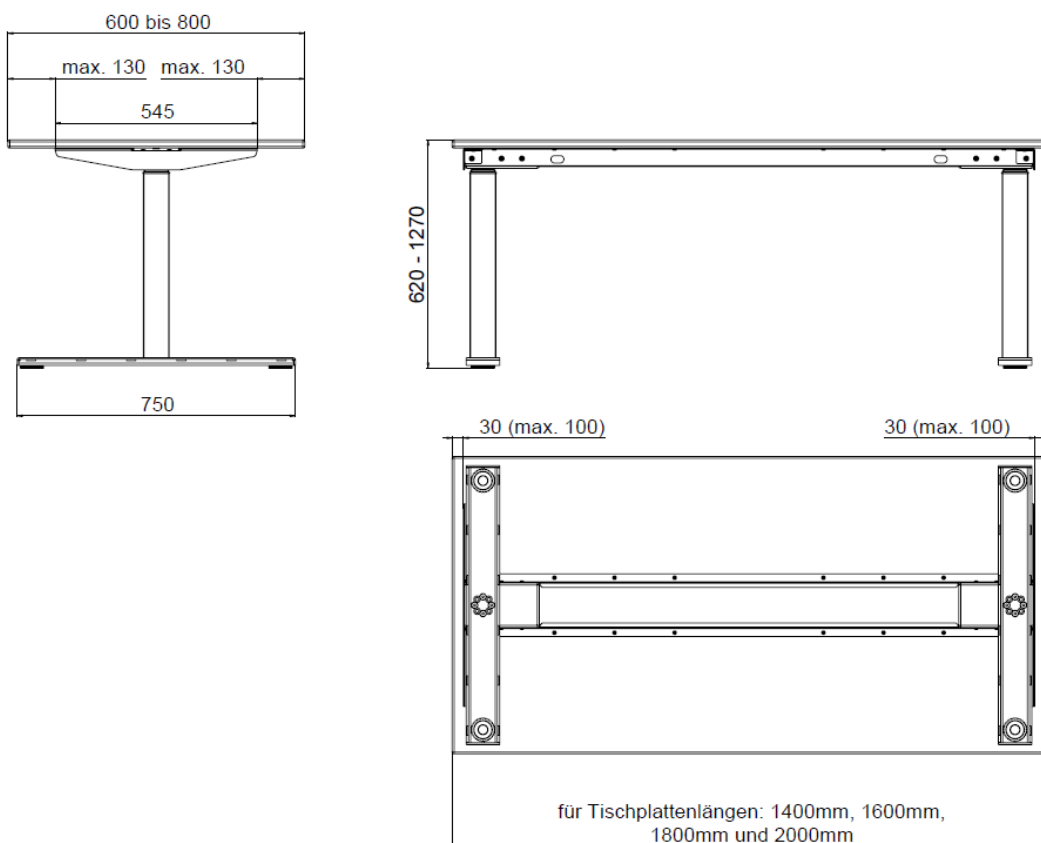

Figure 10 Alignment of the table base frame with the tabletop
- ➔ Follow the instructions regarding the assembly of the table base frame with the tabletop specified in the schematic diagram of the table base frame (figure 10).
- The table base frame is suitable for tabletops with a depth of 600 mm – 800 mm, see figure 10.
- The tabletop should not protrude more than 100mm on the longitudinal side over the table base frame, see figure 10.
- The tabletop should not protrude more than 130 mm on the narrow side over the table base frame, see figure 10.